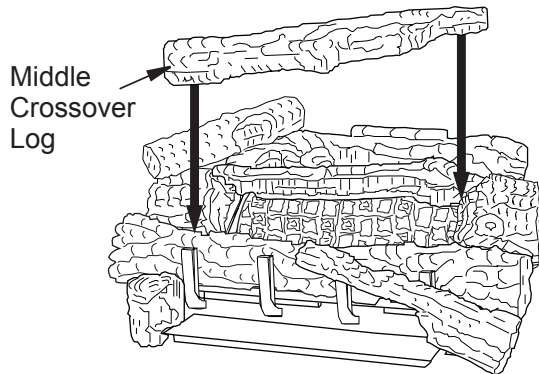

Figure 36 - Installing Middle Crossover Log
10. Rest the middle crossover log onto the right middle log and the left front log (see **Figure 36**). Make sure to match the projection on the bottom of the crossover log with the recess area in the right middle log and the left front log.